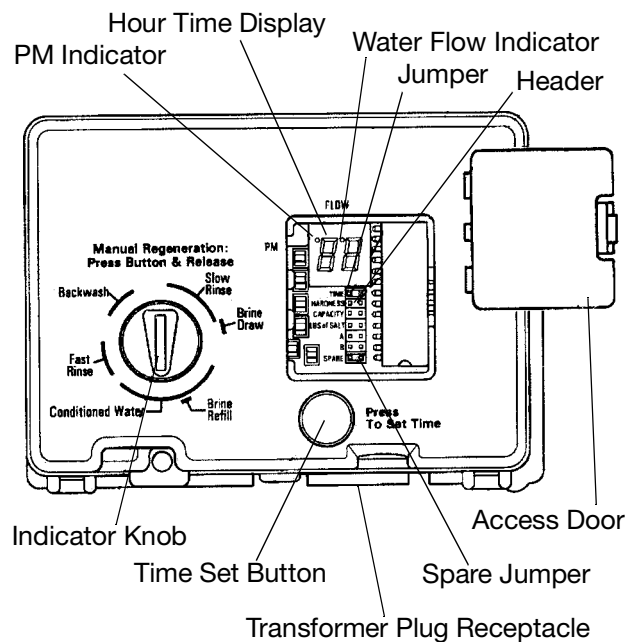

Figure 4
Note: The following steps will require turning the indicator knob on the control, (Figure 4), to various positions. Insert a wide blade screwdriver into the arrow slot in the indicator knob and press in firmly. With knob held in, rotate **counterclockwise only** until arrow on knob points to desired position. (Rotation is made much easier if you grasp the camshaft with your free hand and turn it at the same time.) Then permit knob to spring back out.
2. Remove the access door by flexing the removal tab to the left (as facing the control) then gently pulling the tab and door out and off the control (Figure 4).
2. Press **TIME SET** Button (Figure 4) until desired system number (Table 1) is displayed.